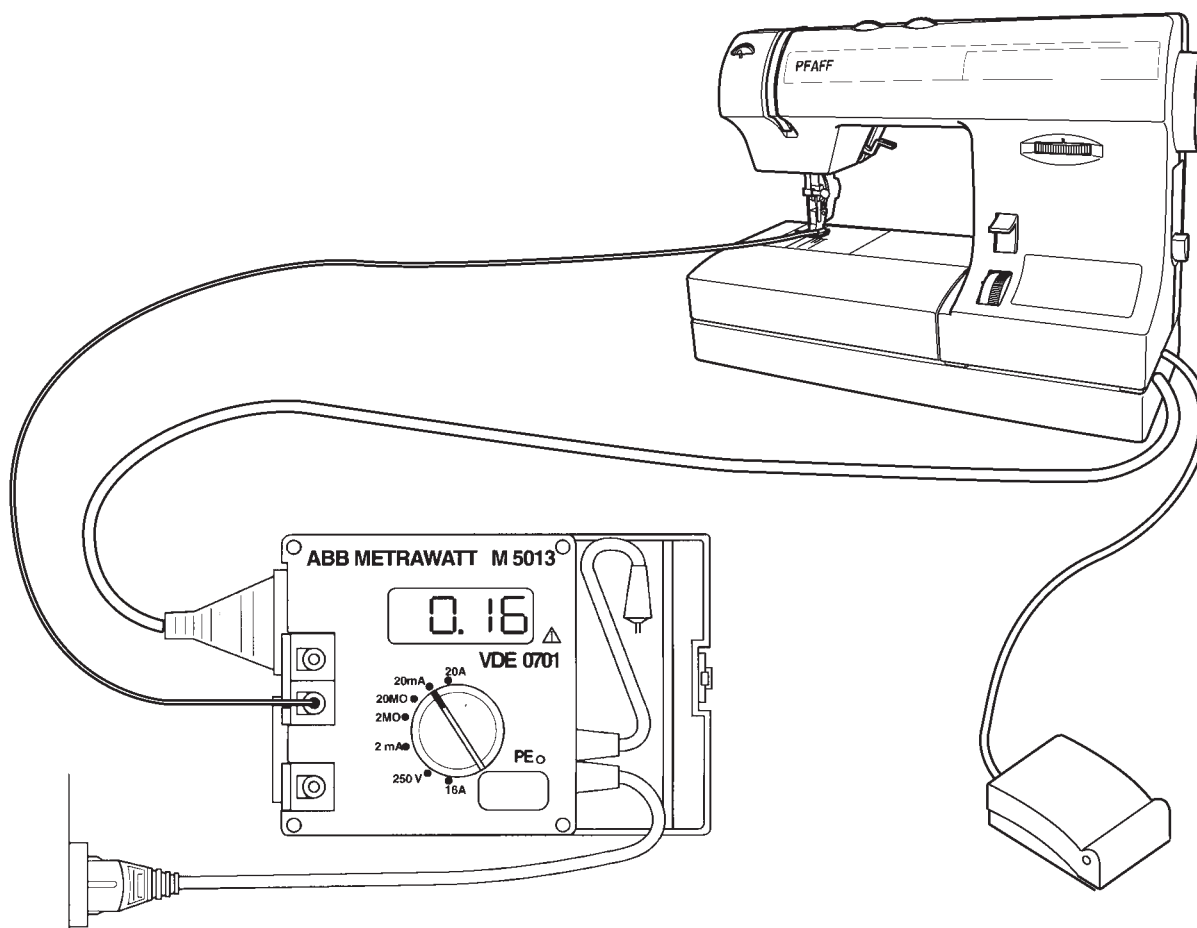

Fig. 124
- Set testing range switch at "20 mA" (fig. 124).